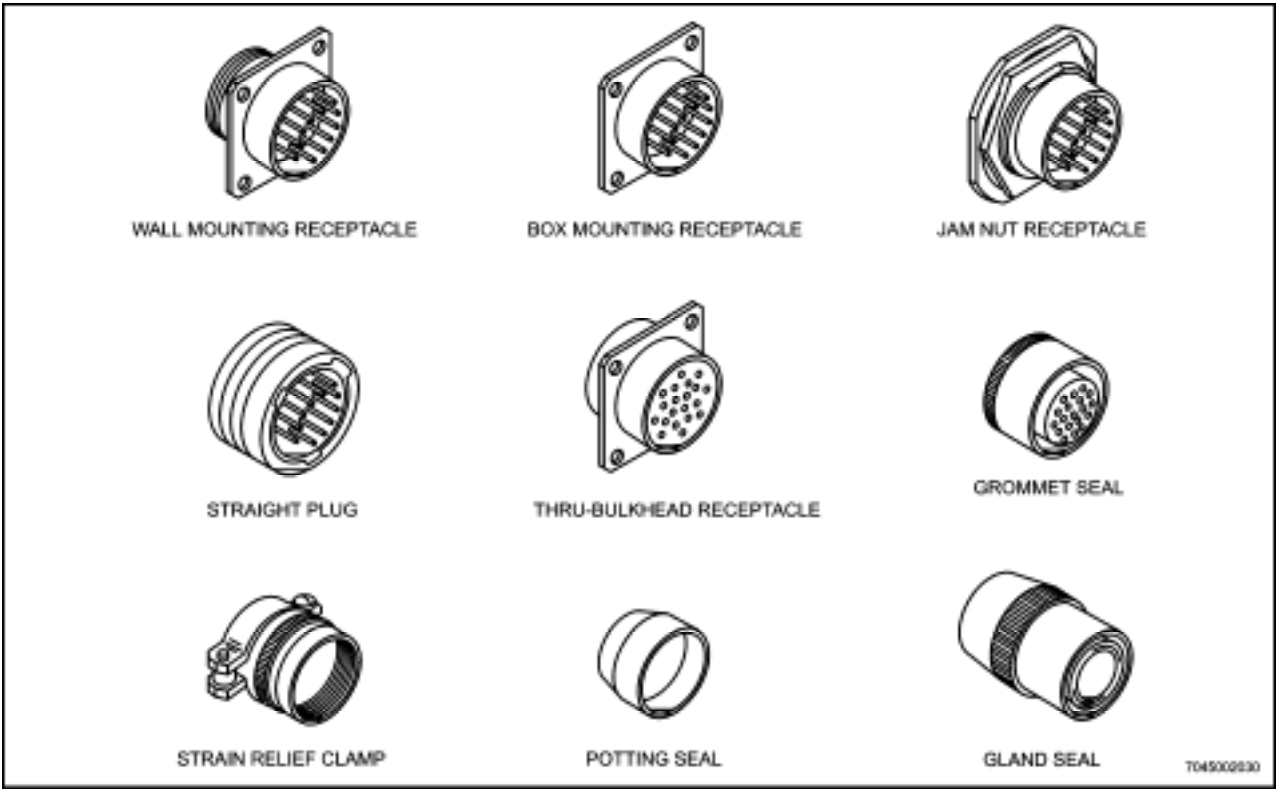

Figure 10-3 Typical Circular Connectors
- b. Numbers such as 3106 indicate type of shell, and whether plug or receptacle. (Refer to Figure 10-3).